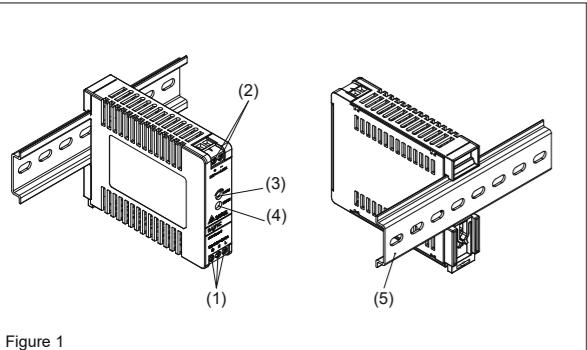

Figure 1
### 3. Device description (Fig. 1)
### 6. Input connection (Fig. 1, Fig. 5)
Use L and N connections of input terminal connector (see Fig. 1 (1)) to establish the 100-240Vac connection.
### 7. Output connection (Fig. 1 (2))
Use the "+" and "-" screw connections to establish the 24Vdc connection. The output provides 24Vdc. The output voltage can be adjusted from 24 to 28Vdc on the potentiometer. The green LED DC OK displays correct function of the output (Fig. 1 (4)). The device has a short circuit and overload protection and an over voltage protection limited to 30-34.8Vdc.